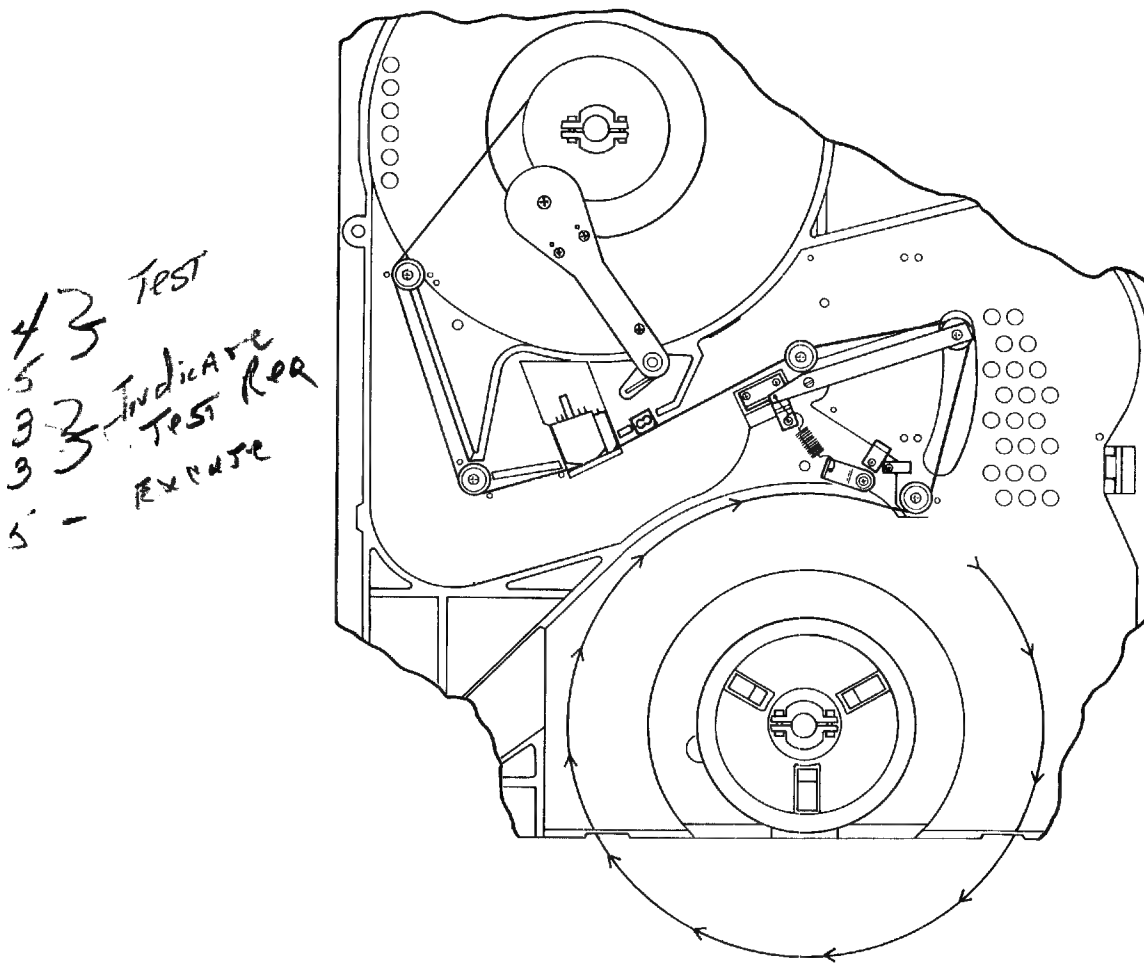

Figure 2-2. Tape Threading Path
- Thread tape along path shown in Figure 2-2. Carefully move tachometer assembly carefully away from takeup hub, and, making one wrap of tape clockwise around takeup hub, gently replace tachometer assembly. Check that tape is seated correctly on guides and threaded properly over head assembly.